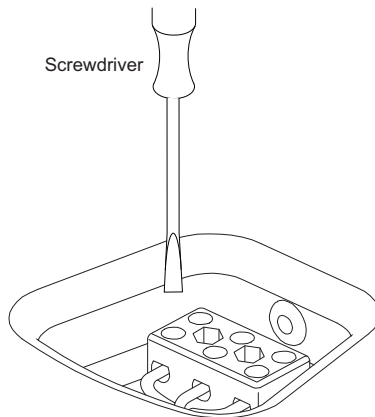

Figure 7: Tighten with Screwdriver
Step 3: Attach Wiring to the Ceramic Connector (Figure 7)